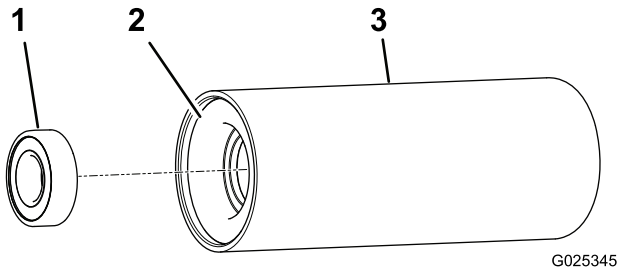

Figure 7
4. Install a bearing into the existing bearing housing in the roller tube (Figure 7).